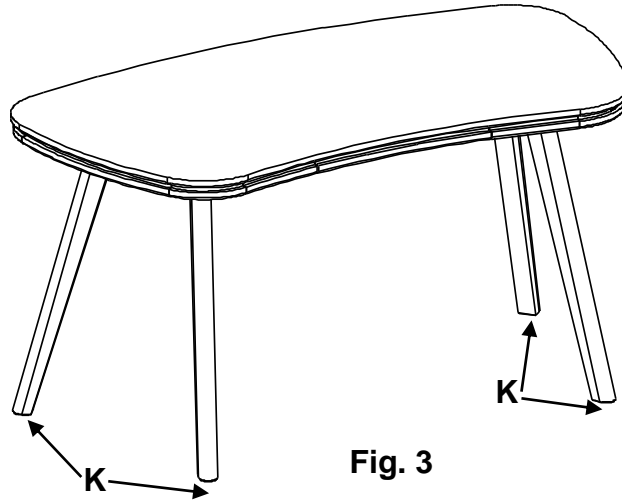

Fig. 3
3. Turn the desk upright and insert the Drawer (B). Place the desk at its final destination. To level the desk, rotate the Adjustable Glide (K) found at the bottom of each leg. See Figure 3.